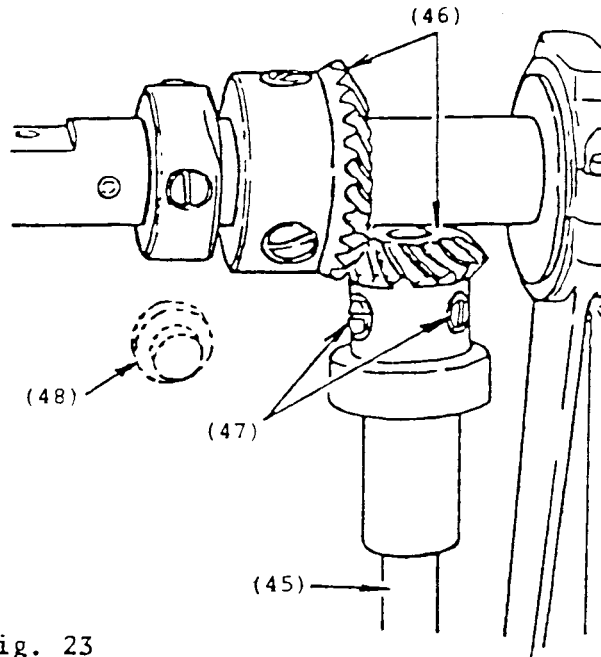

Fig. 23
TO REMOVE AND REPLACE THE UPRIGHT ARM SHAFT (See Fig. 23)
2. Insert upright arm shaft up through upper bevel gear, as shown in Fig. 23.
3. Turn shaft so that one of the two set screws (47) will bear upon the upper gear flat on the shaft and tighten the set screws (47).